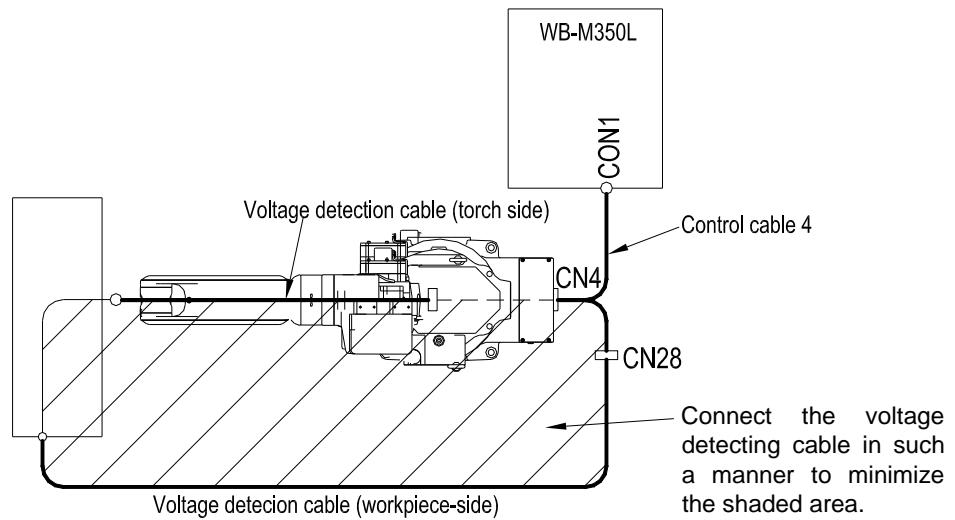

Figure 2.1.8 Routing of the Voltage Detecting Cable (workpiece side)
(1) Connecting the voltage detecting cable (workpiece side)
- Wire the torch (voltage detecting wire) to along with the voltage detecting cable (workpiece side) as much as possible and lower the shaded area Figure 2.1.8.